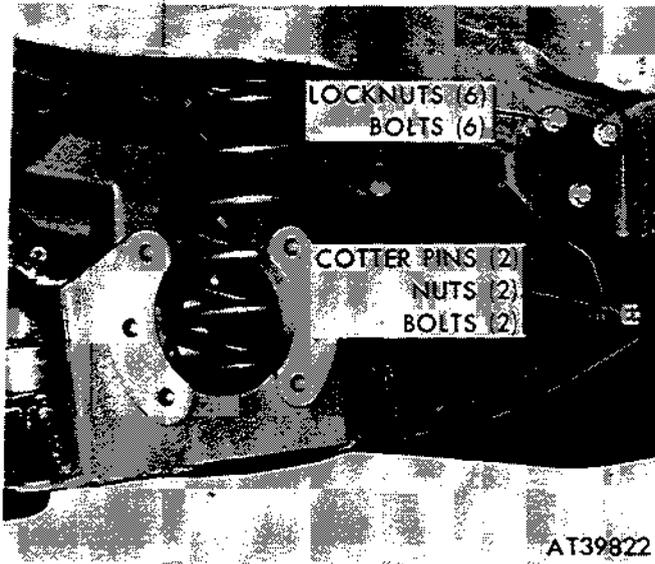

Figure 2-348. Removing or installing rear suspension arm assembly.
- (11) Lower suspension arm until spring can be removed.
- (12) Loosen suspension arm bracket to body bolts (fig. 2-348).
- (13) Remove two cotter pins, slotted nuts and pivot bolts securing suspension arm to brackets and remove suspension arm assembly (fig. 2-348).